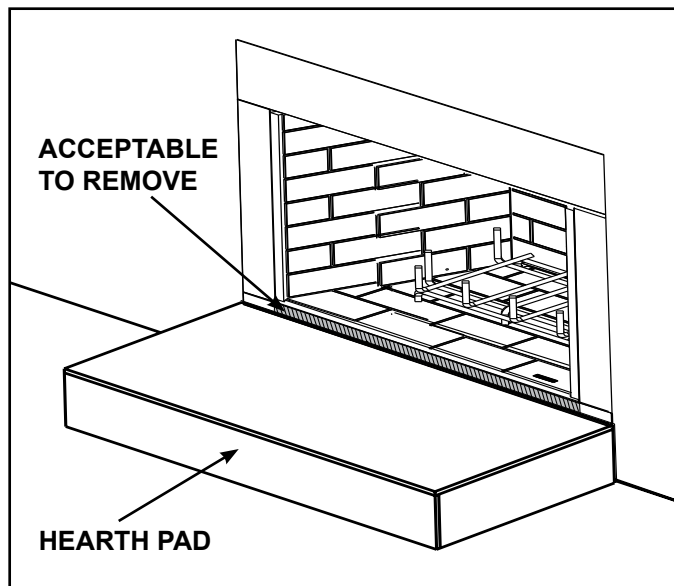

Figure 3.8 Solid Fuel Firebox
- A metal lip protruding above the hearth pad of the solid fuel firebox may be removed. See Figure 3.8.